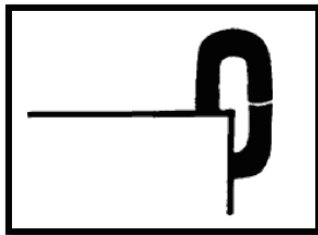

FIG 7
3. Loosen the link, reposition link vertically at edge of vise with the level of the cut above the vise jaw (FIG 7).